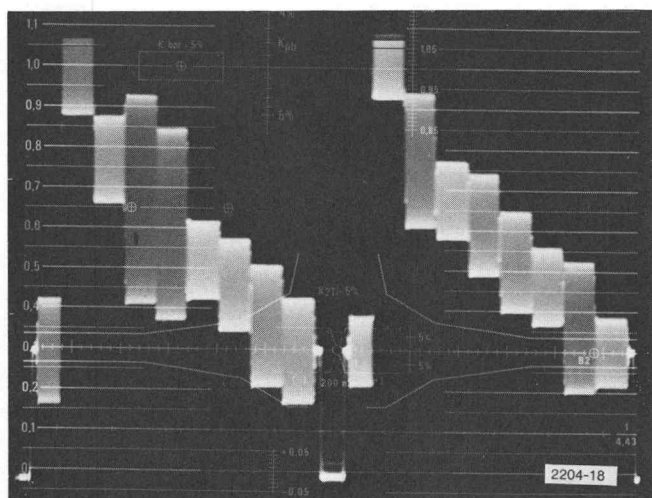

Fig. 1-18. 2 lines of Color Bar signal with Pre-Emphasis off.
9. PRE EMPHASIS: Set the PRE EMPHASIS switch to OUT and observe that the color bars are flat with no overshoot or rolloff. See Fig. 1-18.